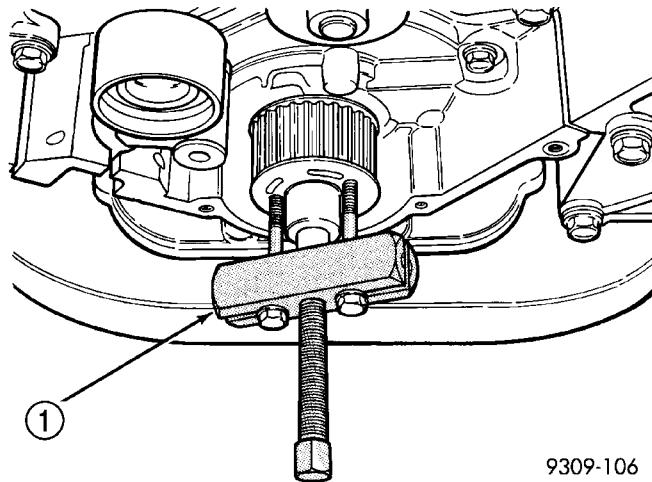

Fig. 150 Crankshaft Sprocket - Removal
(1) Remove the timing belt. (Refer to 9 - ENGINE/VALVE TIMING/TIMING BELT/CHAIN AND SPROCKETS - REMOVAL)
(2) Remove crankshaft sprocket using Special Tool L-4407-A (Fig. 150).